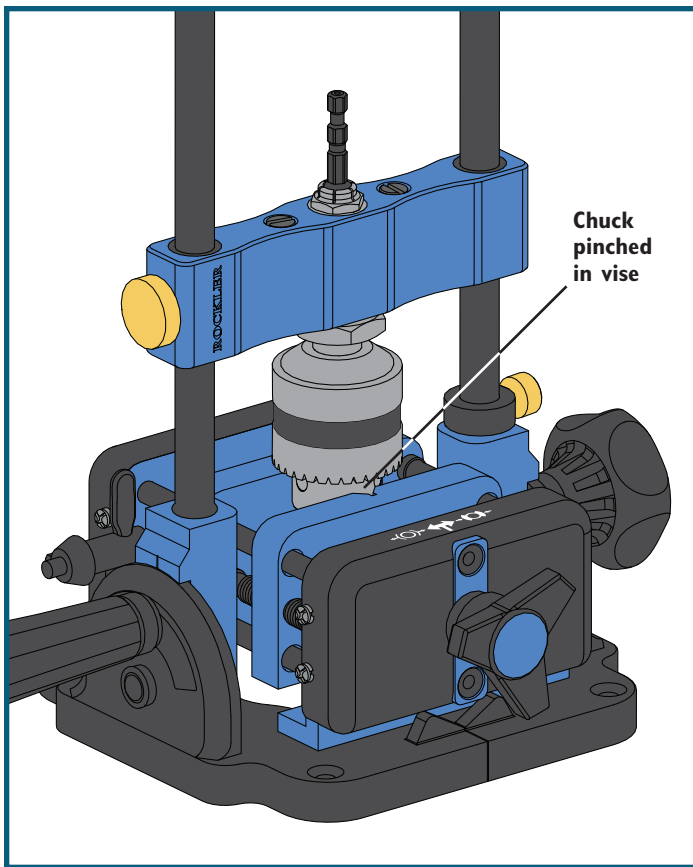

Fig. 3
6. Turn the knob on the Portable Drill Vise to close the jaws around the chuck of the Portable Drill Guide until there's no play between the two. This will center the Drill Vise. **Fig. 3.**